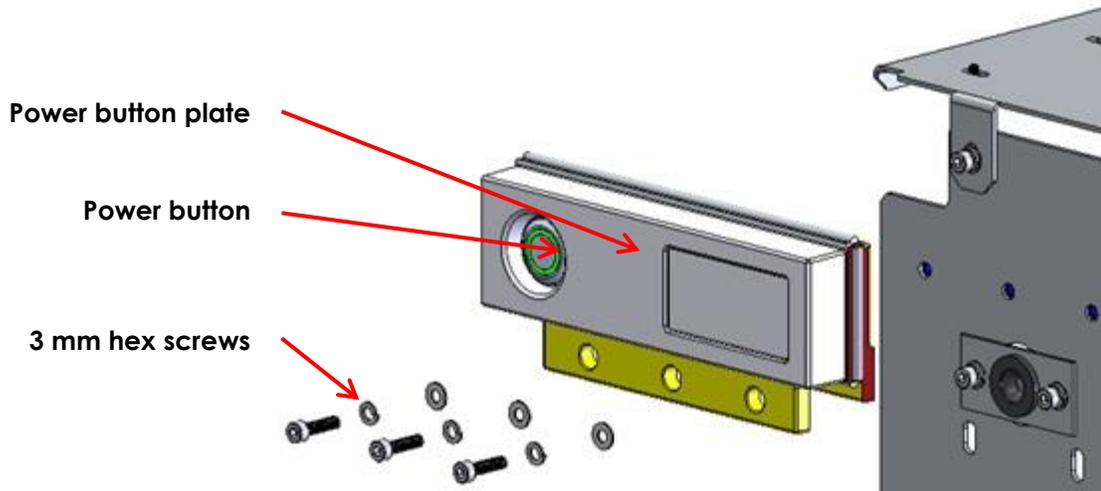

Figure 50: Power Button Plate
4. Remove the three screws, washers and lock washers from the *power button plate* (refer to Figure 50).